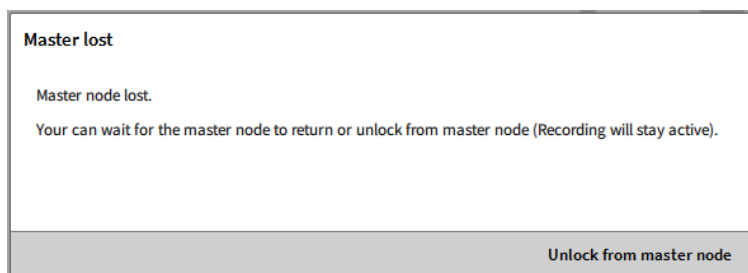

Figure 12-28: Software feedback on slave device if slave node loses network connection
- The affected slave device adds a *Node Lost* marker to the Event List and opens a *Master Lost* popup menu (see Figure 12-28)
- All slave devices add a *Node Lost* marker to the Event List and open a *Master Lost* popup menu (see Figure 12-28)